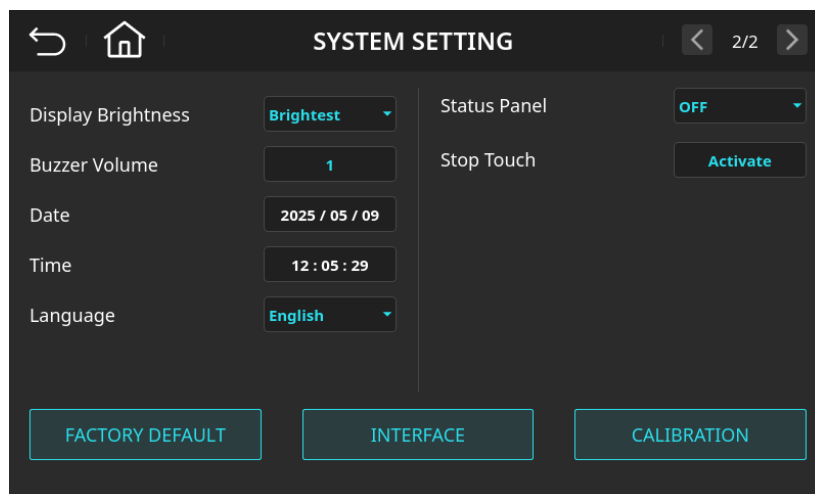

Figure 6-16 System Function Settings Page (Buzzer Volume = 1)
3. Enter 1, then press the Enter  key; the value will update to "1", as shown in Figure 6-16.